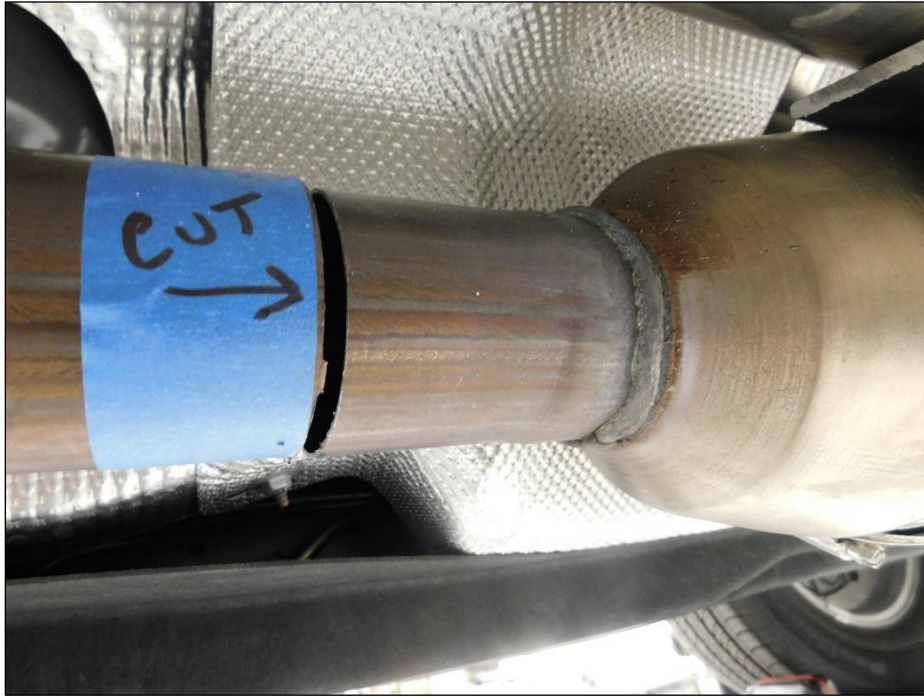

Figure 3
5. Using a reciprocating saw or cut off wheel, cut the Catalytic Converter from the exhaust system. Use the inside tape edge as a guide to make a straight cut (**Fig. 3**).
8. Using a reciprocating saw or cut off wheel, cut the Catalytic Converter from the exhaust system as outlined in **Steps 3 & 5**. Use the inside tape edge as a guide to make a straight cut (**Fig. 3**).